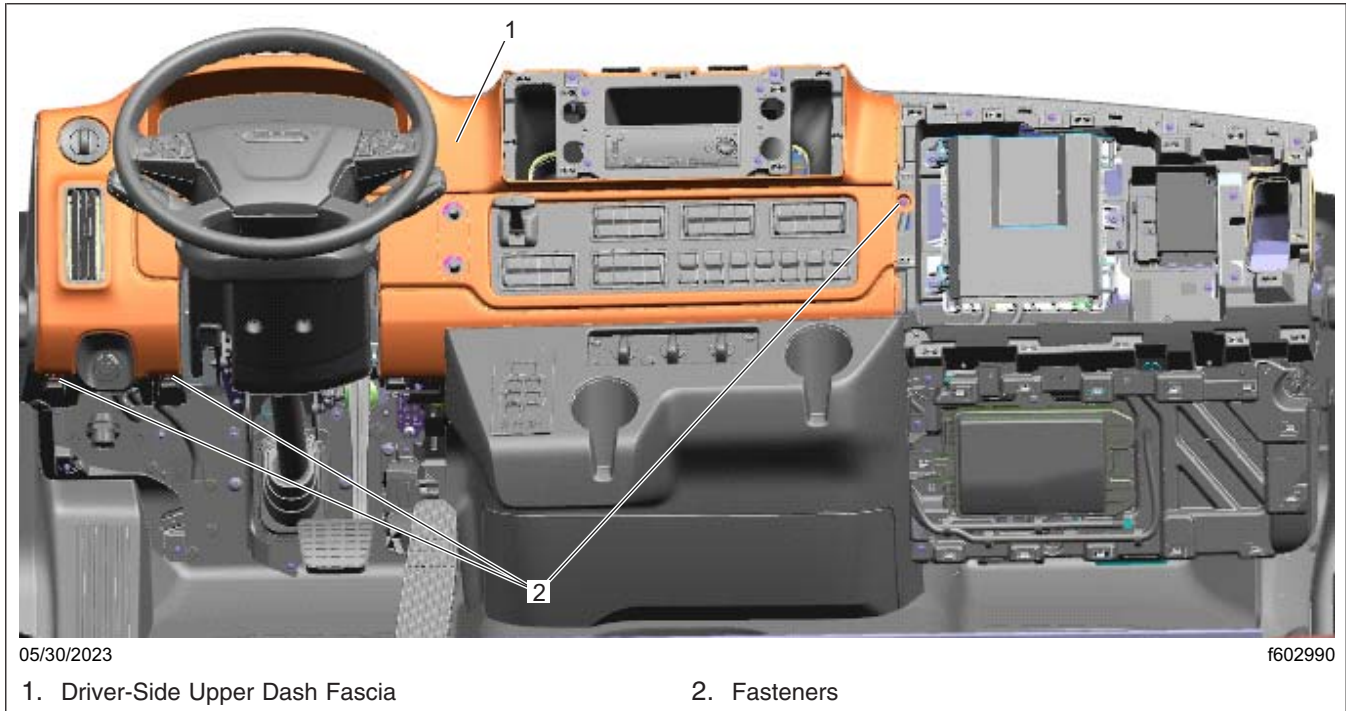

Fig. 13, Driver-Side Upper Dash Fascia
12. Remove the driver-side upper dash fascia. See Fig. 13.